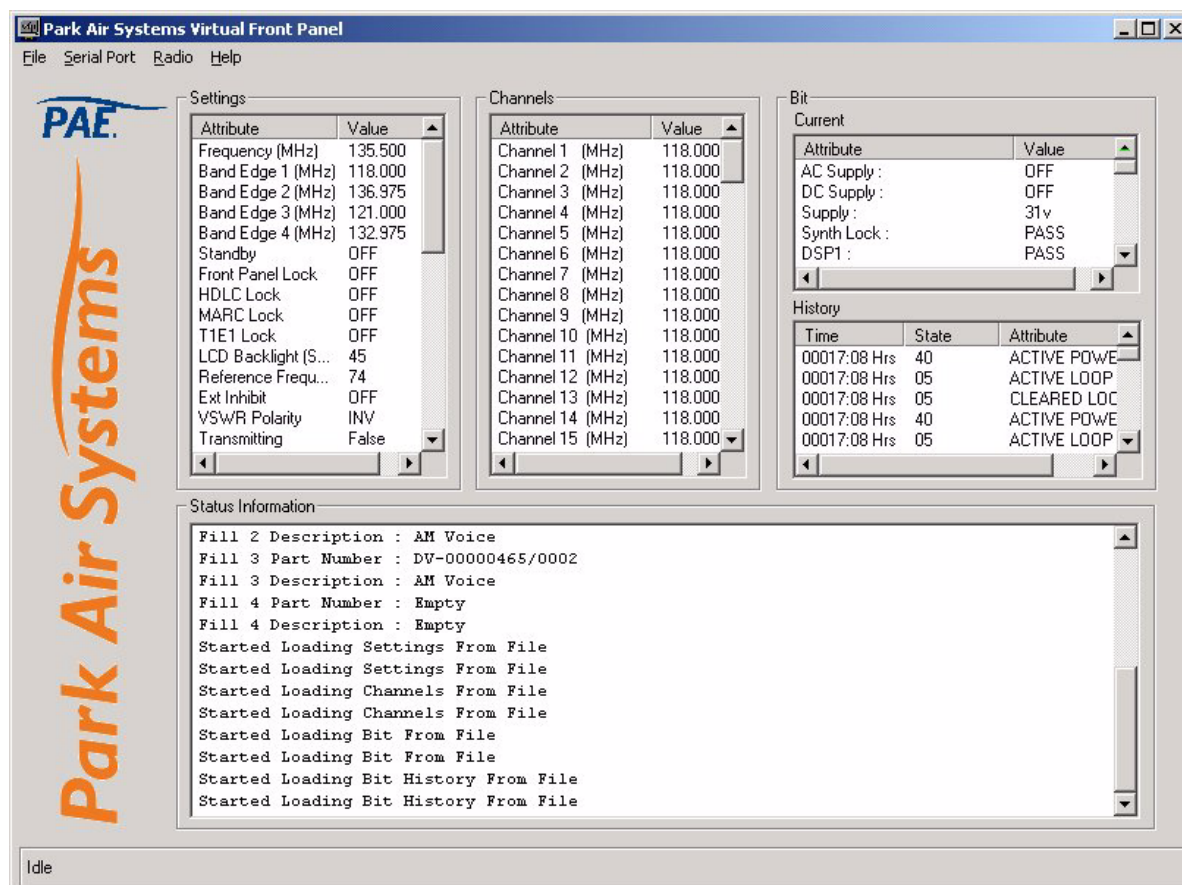

Fig 2 Typical VFP Screen - AM-Voice Profile Shown
- ❑ Front Panel Lock is available only when using the VFP. As part of the transmitter's Settings (see Fig 2), Front Panel Lock can be set to ON. When selected to on, no settings or frequency information can be changed from the front panel